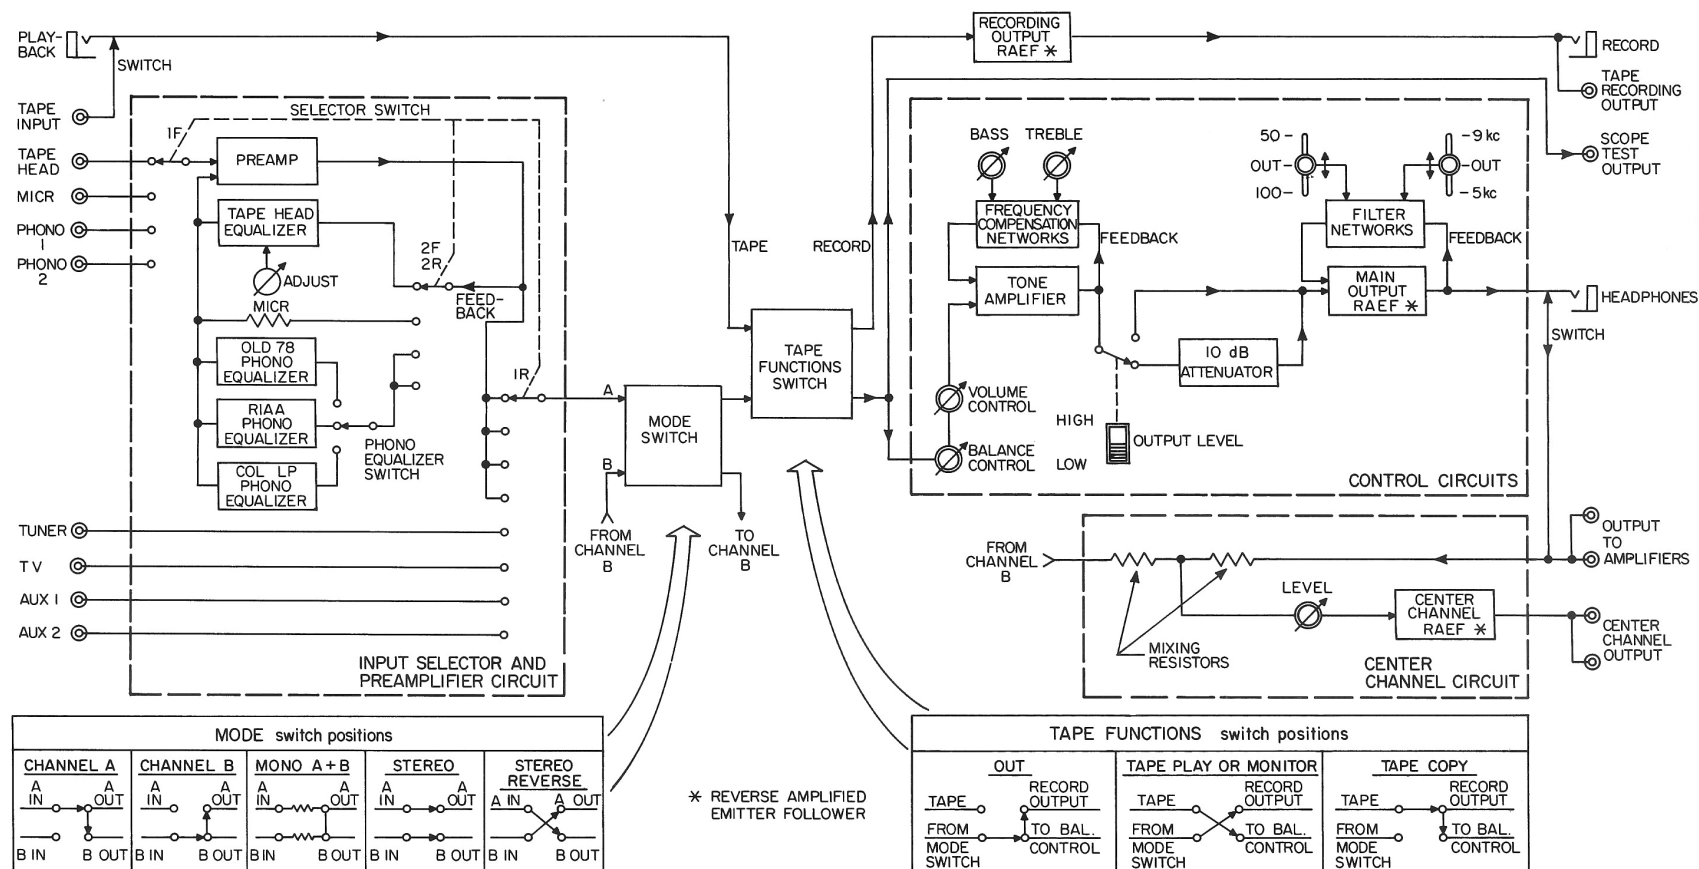

Figure 6. Functional System Diagram
Figure 6 is a simplified functional diagram which shows in detail the signal processing circuits of the 7T stereo console. For clarity, this diagram shows channel A only; channel
**Mode switch** Channel switching is controlled by the **mode** switch. Signal routing for each of the five positions of this switch is shown at the bottom of Figure 6.
**Tape Functions switch** The **TAPE FUNCTIONS** switch controls the routing of the selected input signal and/or the tape input signal (for both channels) to the control circuits and/or the recording output circuit. As shown at the bottom of Figure 6, in the **OUT** (normal) position, the selected signal from the input selector and preamplifier circuit is fed to both the control circuits and the